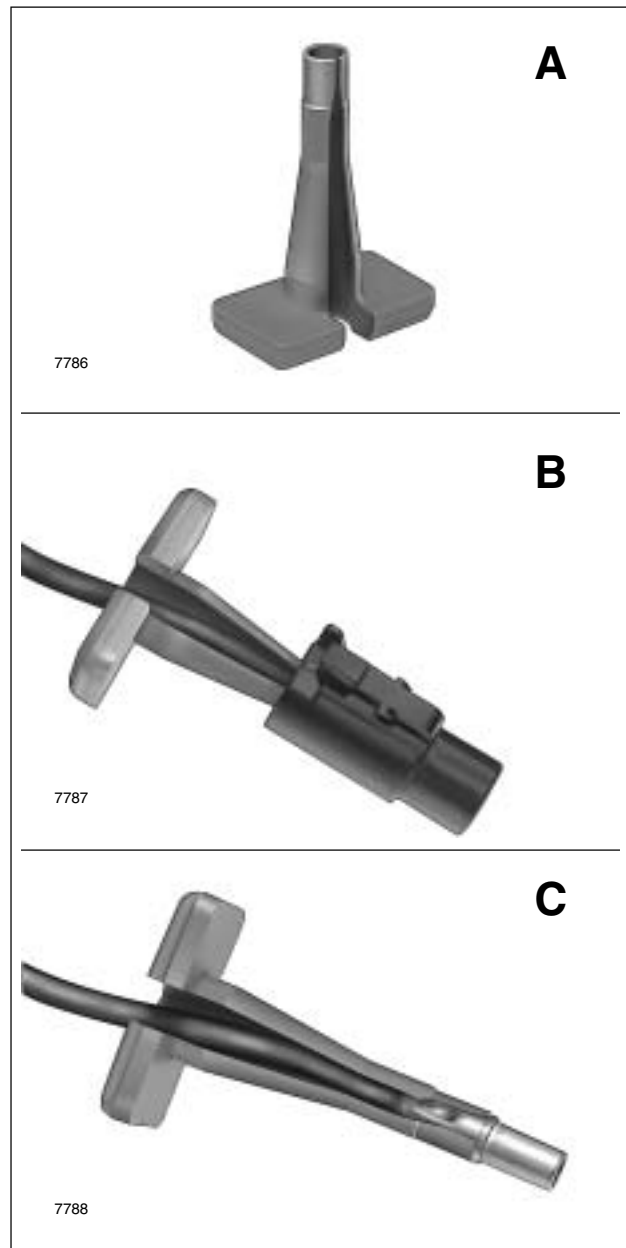

Figure 8-26. Remove Socket/Pin Housing
3. Obtain terminal pick tool (Deutsch® 114008) like that shown in A of Figure 8-26.
4. Install terminal pick tool onto voltage regulator cable so that the tapered end is in the wire end of the housing. See B of Figure 8-26.
5. Push tool into wire end of housing until it bottoms. Gently tug on housing to pull from terminal. See C of Figure 8-26.